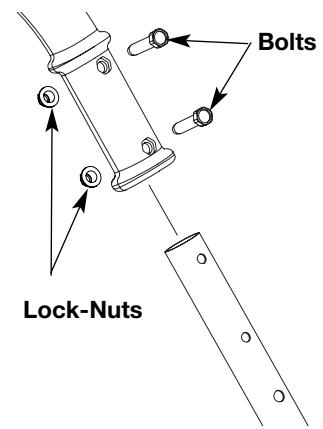

Fig. 2
5. Insert the control handle onto the 3-holed end of the straight metal shaft and align the control handle's holes with the two end holes of the straight metal shaft (Fig. 2).
6. Insert the two screws ($1/4'' \times 1-1/2''$) into the recessed hex holes on the handle (Fig. 2) and hold in place.